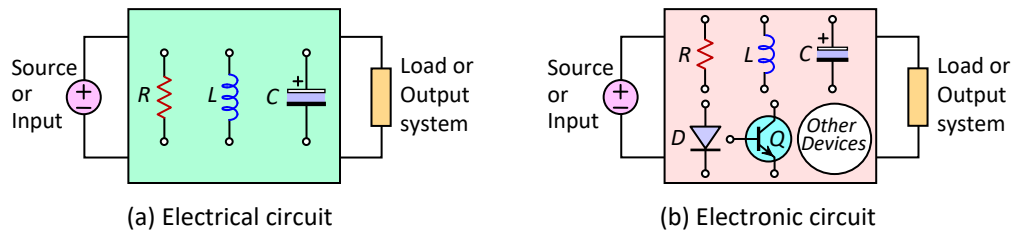

Fig.2-1: Electrical and Electronic circuits
**Electrical Circuits:** An **electrical circuit** is a complete path in which, charge (i.e. electrons) flows from a voltage or current source. This type of circuit consists of three elements – resistors, capacitors and inductors but no semiconductor device or vacuum tube (Fig.2-1). They have no processing capability of signals.